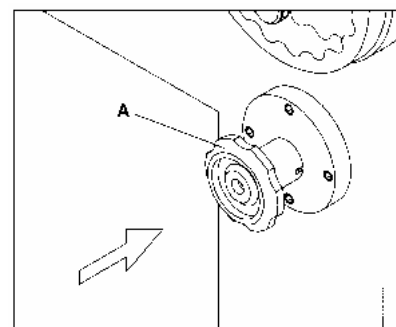

Fig. 3.11
2. To engage the spindle lock, turn knob (A) Fig.3.11, counterclockwise and push in to the locked position, as shown in Fig.3.11.